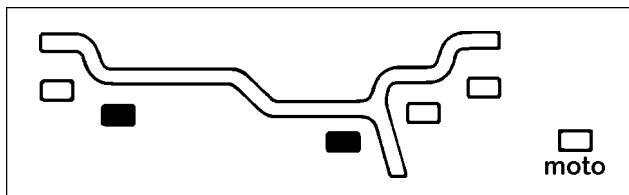

Fig.51
**E. ALU4.** The wheel weights position is as indicated in Fig.51. In this case use hidden tape weights.